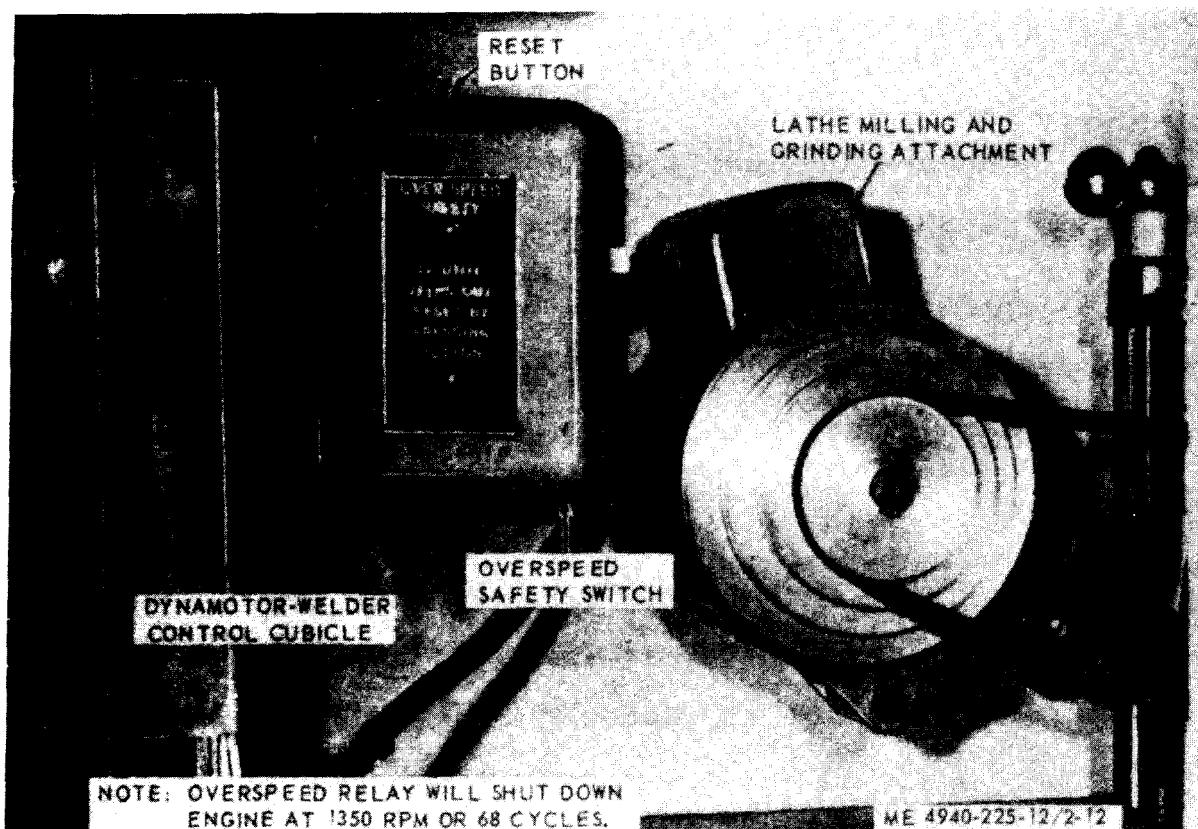
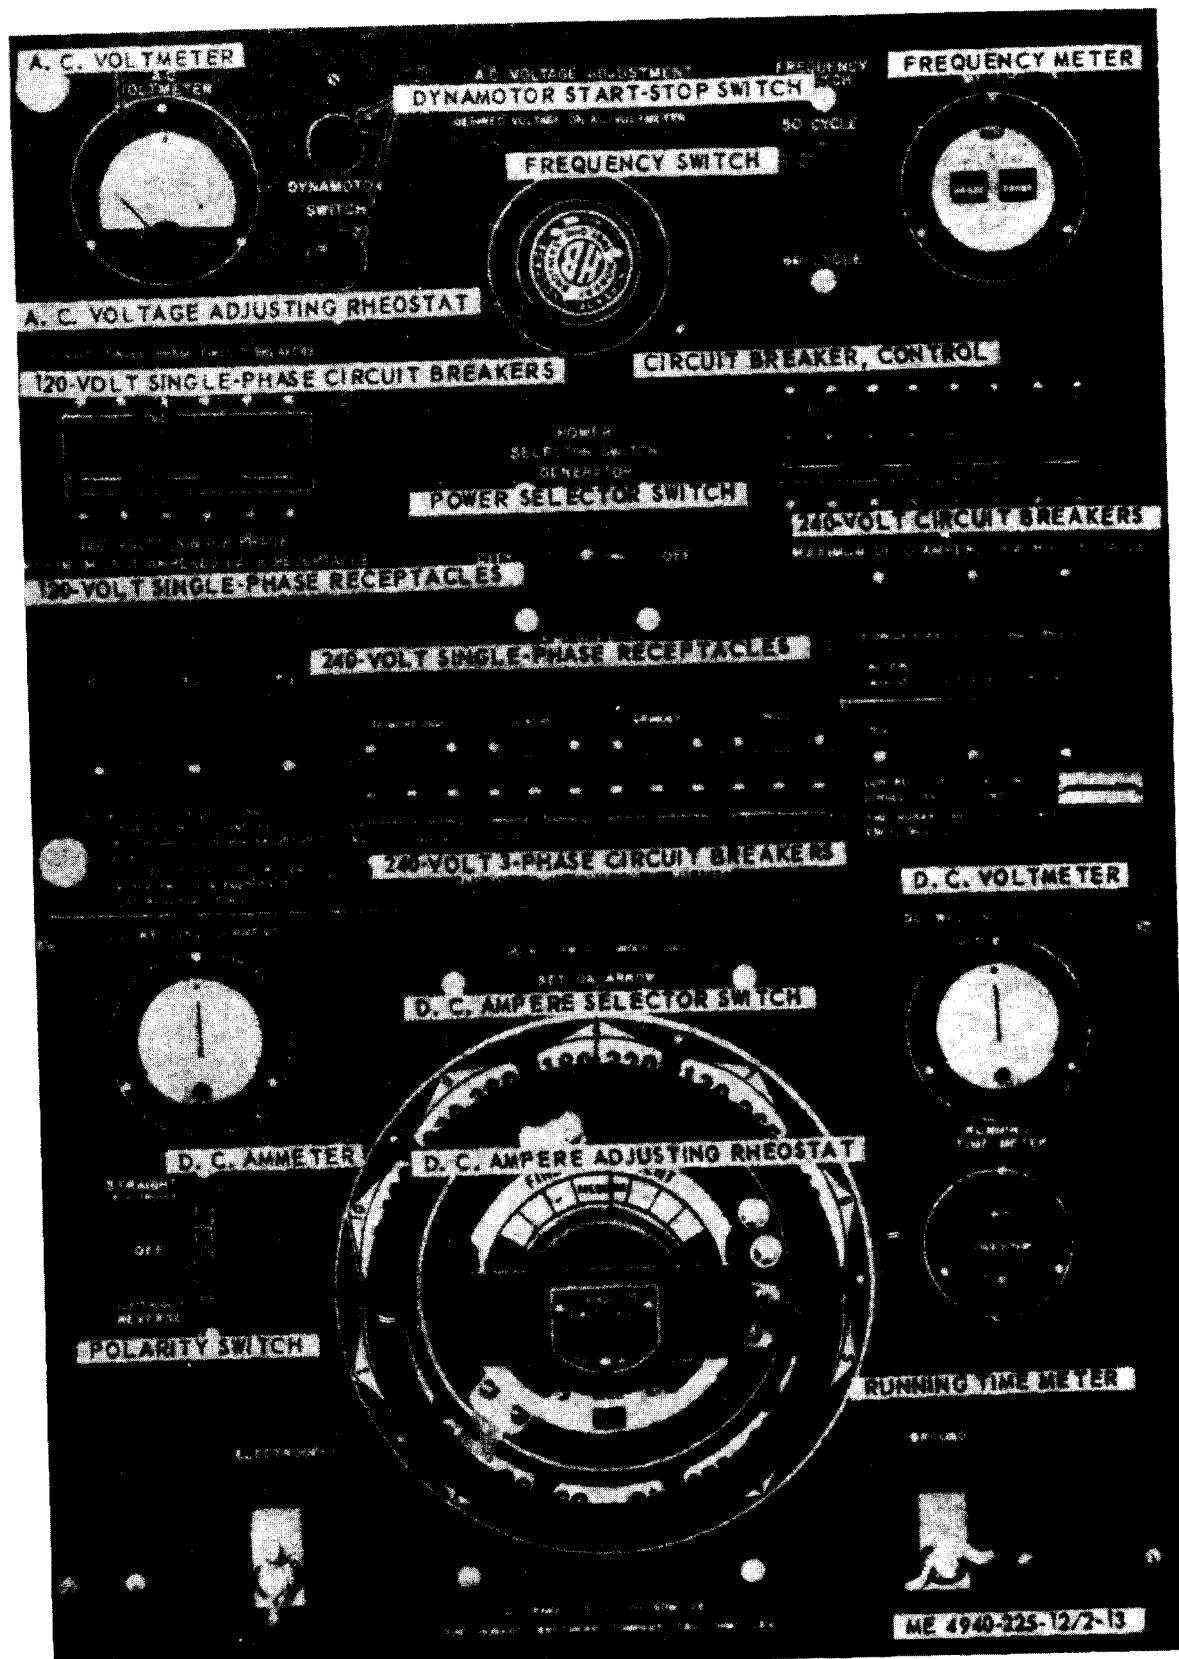

Figure 2-12. Overspeed safety switch.
Figure 2-13. Electrical system control panels.
e. **A.C. Voltmeter.** The A. C. voltmeter (fig. 2-13) indicates the A.C. voltage output of the generator portion of the dynamotor-welder, when the dynamotor-welder is driven by the truck engine. The output voltage is regulated by the A.C. voltage adjusting rheostat, and the A.C. voltmeter indicates the adjusted voltage, which will normally be
f. Dynamotor Start-Stop Switch. The switch (fig. 2-13) is used to start and stop the dynamotor-welder when an external electrical power source is used, and also to close the contactor to provide A.C. power when the dynamotor-welder is driven by the truck engine. To operate the switch, press the button momentarily to stop or start.
g. A.C. Voltage Adjusting Rheostat. The rheostat (fig. 2-13) regulates only the output A.C. voltage of the generator portion of the dynamotor-welder, from the minimum to the maximum. Turn handle clock wise to increase and counterclockwise to decrease A.C. voltage.
h. Frequency Switch. The frequency switch (fig. 2-13) should be set on 60 cycles if 60-cycle external power is used to run the dynamotor-welder; or, if the engine governor is adjusted so that the truck engine will run at 1,200 rpm to cause the dynamo: or-welder to develop 60-cycle A.C. current. The switch should be set on 50 cycle if 50-cycle external power is used, or is the engine governor is adjusted at 1,000 rpm for 50-cycle A.C. current
i. Frequency Meter. The frequency meter (fig. 2-13) indicates the cycles of incoming power when an external electrical power source is used, and indicates the cycles of output power when the dynamotor-welder is driven by the truck engine. Normal reading is 60 cycles when the engine is driving the dynamotor-welder at 1,200 rpm, and 50 cycles at 1,000 rpm.
j. 120-Volt, Single-Phase Circuit Breakers. The circuit breakers (fig. 2-13) protect these circuits against overloading which could be connected to the 120-volt, single-phase receptacles. These circuit breakers are rated at 30 amperes each.
k. 120-Volt, Single-Phase Receptacles. 120-volt, single-phase power is available at the three receptacles (fig. 2-13), R 1, R2, and R3, when the dynamotor-welder is powered by the truck engine, or by an external power source. Only the R3 receptacle will transmit 120-volt, single-phase power, when using only 120-volt emergency power.
l. Power Selector Switch. The power selector switch (fig. 2-13) sets the control panel for the source of power that will be used to run the dynamotor-welder and/ or the shop set,
(1) In GENERATOR position, the dynamotor-welder is driven by the truck engine. The generator portion of the dynamotor-welder will produce A.C. current regulated by the A.C. voltage adjusting rheostat. Power is available at all terminals and receptacles. D.C. current up to 300 amperes and 40 volts is available for welding.
(2) In CITY position, an external source of 240-volts A.C. 3-phase power is connected to the input receptacle. The generator portion of the
(3) In EMERGENCY position, an external source of 120-volt A.C. single-phase power is connected to the shop set. The shop set lights and R3 receptacle on the control panel can be used.
(4) In OFF position, all A.C. circuits are de-energized. When the engine is running at 1,200 rpm, the welding studs are energized for normal welding operations.
m. Circuit Breaker, Control. The function of the control circuit breaker (fig. 2-13) is to protect the motor-starting contactor circuit from overloading. This circuit breaker is rated at 3 amperes.
n. 240-Volt Circuit Breakers. These 3 circuit breakers (fig. 2-13) protect the three 240-volt, single-phase receptacle circuits, R4, R5, and R6 from overloading in excess of 10 amperes for each receptacle.
o. 240-Volt, Single-Phase Receptacles. These receptacles (fig. 2-13) are twist-lock type and will transmit a maximum of 10 amperes of electric current when the generator portion of the dynamotor-welder is driven by the engine or an external source of electrical power. Electrical power is also available when the external power source is connected to the shop set and the dynamotor-welder is stopped.
p. 240-Volt, 3-Phase Circuit Breakers. These 4 circuit breakers (fig. 2-13) protect the air compressor and lathe electrical circuits from overloading in excess of 30 amperes each. They also protect the milling attachment circuit from overloading in excess of 15 amperes.
q. D.C. Ammeter. The ammeter (fig. 2-13) indicates the amperage of D.C. welding current only when welding is actually being accomplished. The normal reading will vary with the amperage range selected at the D.C. ampere selector switch and the fine adjustment made at the D.C. ampere adjusting rheostat.
r. Polarity Switch. The polarity switch (fig. 2-13) is used to direct the flow of D.C. welding amperes from the welding rod to the material (straight polarity) or to direct the flow of amperes from the material to the welding rod (reverse polarity). The normal position of this switch could be different for each welding job based on many elements that only experience will predict. The switch must be OFF when welding is not being performed to prevent possible damage.
s. D.C. Ampere Selector Switch. The switch (fig. 2-13) is used to select the welding ampere range required for all welding to be accomplished. Amperes lower than 30 are available for special
t. **D. C. Ampere Adjusting Rheostat.** The rheostat (fig. 2-13) regulates the D.C. welding amperage within the ampere range selected at the D.C. ampere selector switch. This rheostat may be removed from the control panel and moved to the welding site for remote fine adjustment of D.C. amperage by using a suitable electrical cable to
u. **D.C. Voltmeter.** The D. C. voltmeter (fig. 2-13) indicates the D.C. voltage output of the welder and will show a maximum of 40 volts.
v. **Overspeed Safety Switch.** (Model SEORLT only). Overspeed relay will shut down engine at 1,350 rpm or 68 cycles (fig. 2-12).
(1) Perform the necessary daily preventive maintenance checks and services (para 3-4).
(2) Set power selector switch (fig. 2-13) in "OFF" position.
(3) Set frequency switch to the desired frequency for the area the vehicle is being operated.
(4) Depress reset button on the overspeed safety switch (fig. 2-12).
- (1) Perform the necessary daily preventive maintenance checks and services (para 3-4).
- (2) Set power selector switch (fig. 2-13) in "OFF" position.
- (3) Set frequency switch to the desired frequency for the area the vehicle is being operated.